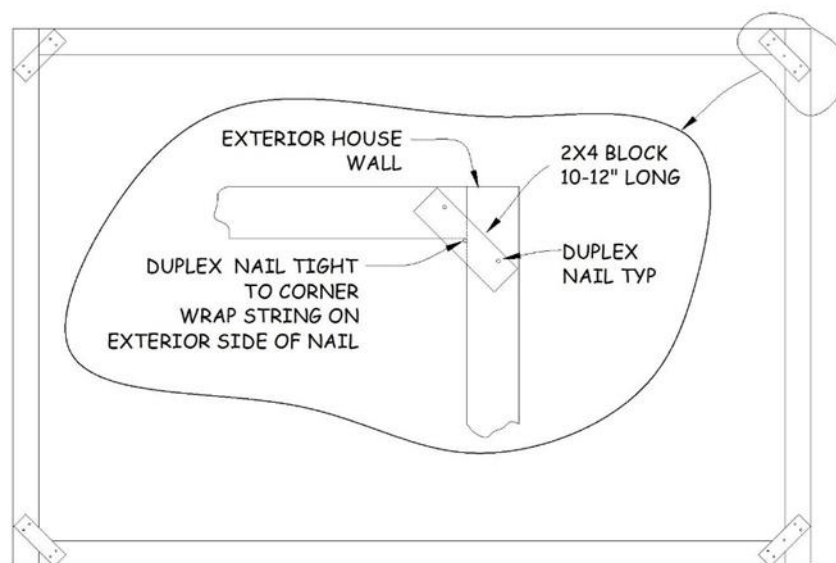

Figure 5-4. Installing String Line.
4. Place the 2x4 piece on top of the 2x6 upper plates at roughly a 45° angle so that the protruding end of the 16d duplex nail rests tightly against the "inside" corner of the upper plates of both walls (see Figure 5-4).